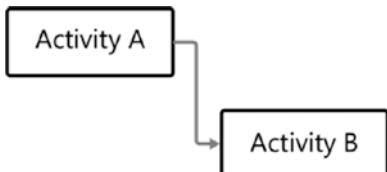

Figure 4-3. Finish-to-start relationship
- *Finish-to-start (FS)*: The successor activity cannot start until the predecessor activity has finished. For example, you cannot erect the walls of a house until the foundation has been completed. Figure 4-3 depicts how this would be represented diagrammatically.